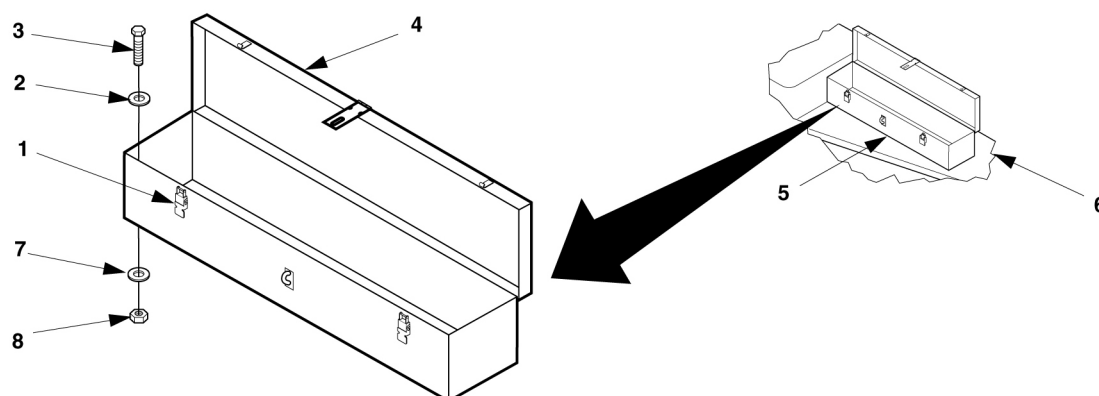

Figure 4-18. Accessory Box Replacement
1. Release clamping catches (1, figure 4-18) and open accessory box cover (4).
2. Remove any stored accessories from accessory box (5).
3. Remove self-locking nuts (8), flat washers (2 and 7), and bolts (3) that secure accessory box (5) to trailer chassis (6). Discard self-locking nuts (8).
4. Lift accessory box (5) off trailer chassis (6).